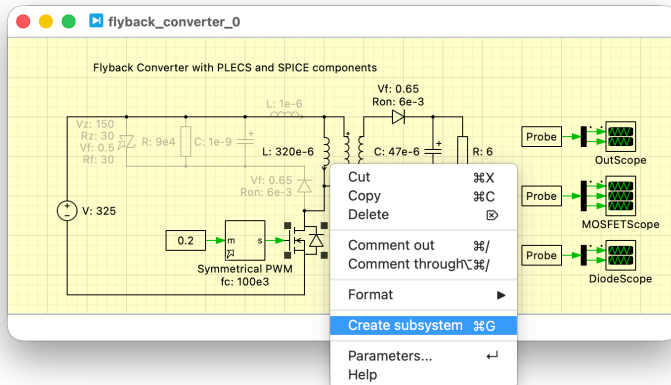

Figure 2: Create subsystem
- 1 **Right-click** on the **MOSFET with Diode** component and select **Create subsystem** or press **Ctrl+G**. See Fig. 2.